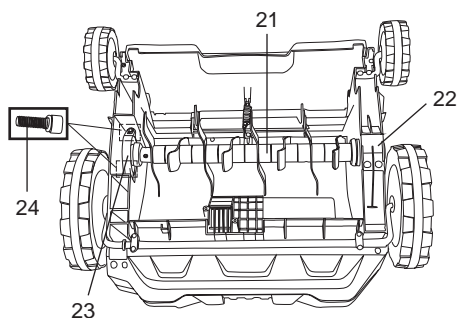

Fig. 24
1. Remove the grass catcher (15).
3. Loosen two bolts (24a) with the provided hex key, remove them together with the spring washers (24b) from the bearing seat (23) (Fig. 24).